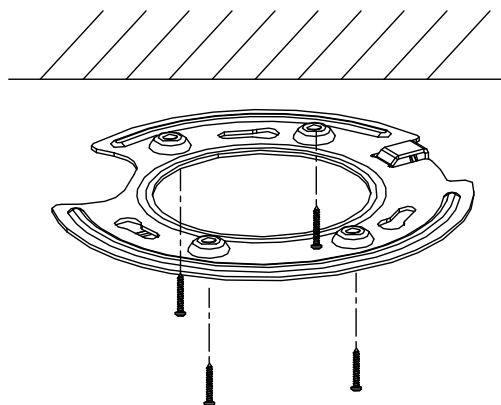

Figure 2-24 Fix the Base Plate
4. Insert 4 PM4*10 screws into the ceiling and fix the base plate, as shown in Figure 2-24. Make sure the FRONT arrow of the base plate is of the same direction as the arrow of the drill template.